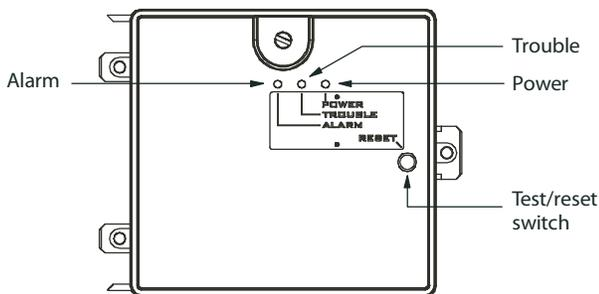

Fig. 26 - Controller Assembly
- The contacts on the controller’s supervisory relay switch positions. (See Fig. 26.)